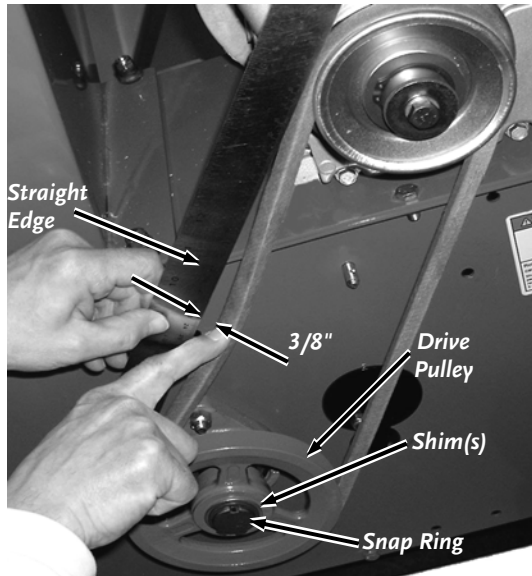

Figure 16
2. The Belt should deflect 3/8" under approximately three pounds of pressure as shown in **Figure 16**, if it doesn't, adjust per the following directions.
6. Use a 1/2" Wrench to turn the Adjust Nut in to tighten or out to loosen for the correct Belt deflection (**Figure 16**).
- b) Using a Straight Edge, align the Drive Pulley (**Figure 19**) to be parallel with the Belt, by moving the Drive Pulley in or out on the Rotor Shaft (**Figure 16** on page 18).
NOTE: If the Drive Pulley cannot be moved in or out enough to obtain parallelism, you will have to swap the shims behind or in front of the Drive Pulley. This will necessitate removing the Belt and the Snap Ring on the Rotor Shaft (**Figure 16** on page 18), swapping the shims and reinstalling the Drive Pulley, Snap Ring and Belt. Once you have obtained parallelism, continue with step c).